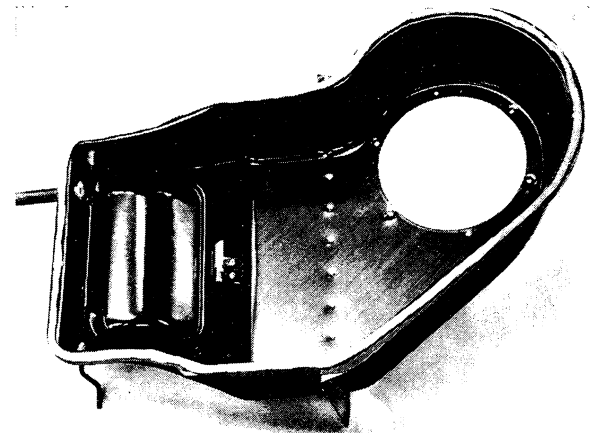

Fig. 8-54. Sealing heater joint
3. Where needed, apply new sealing compound. Place it in the joint between both the halves of the heater before screwing them together (see Fig. 8-54).